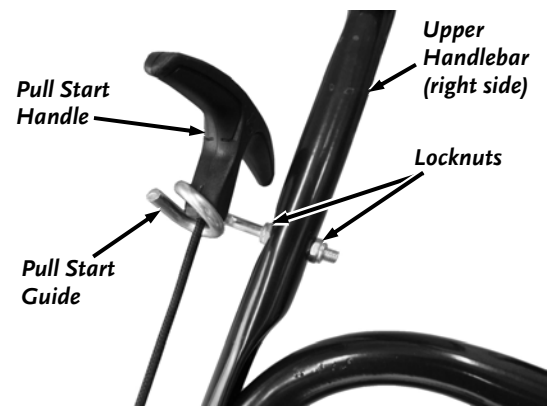

Figure 5
1. Ensure that one of the Locknuts is screwed all the way onto the threads of the Pull Start Guide (**Figure 5**).